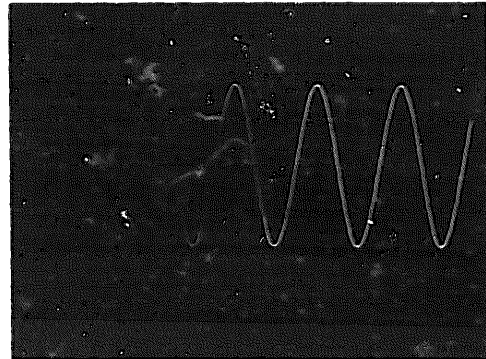

Figure 1-7. Variable persistence with a slow, repetitive sweep
- b. For variable persistence operation, use minimum **INTENSITY** and maximum **PERSISTENCE** compatible with the desired display. (See Fig. 1-7.)